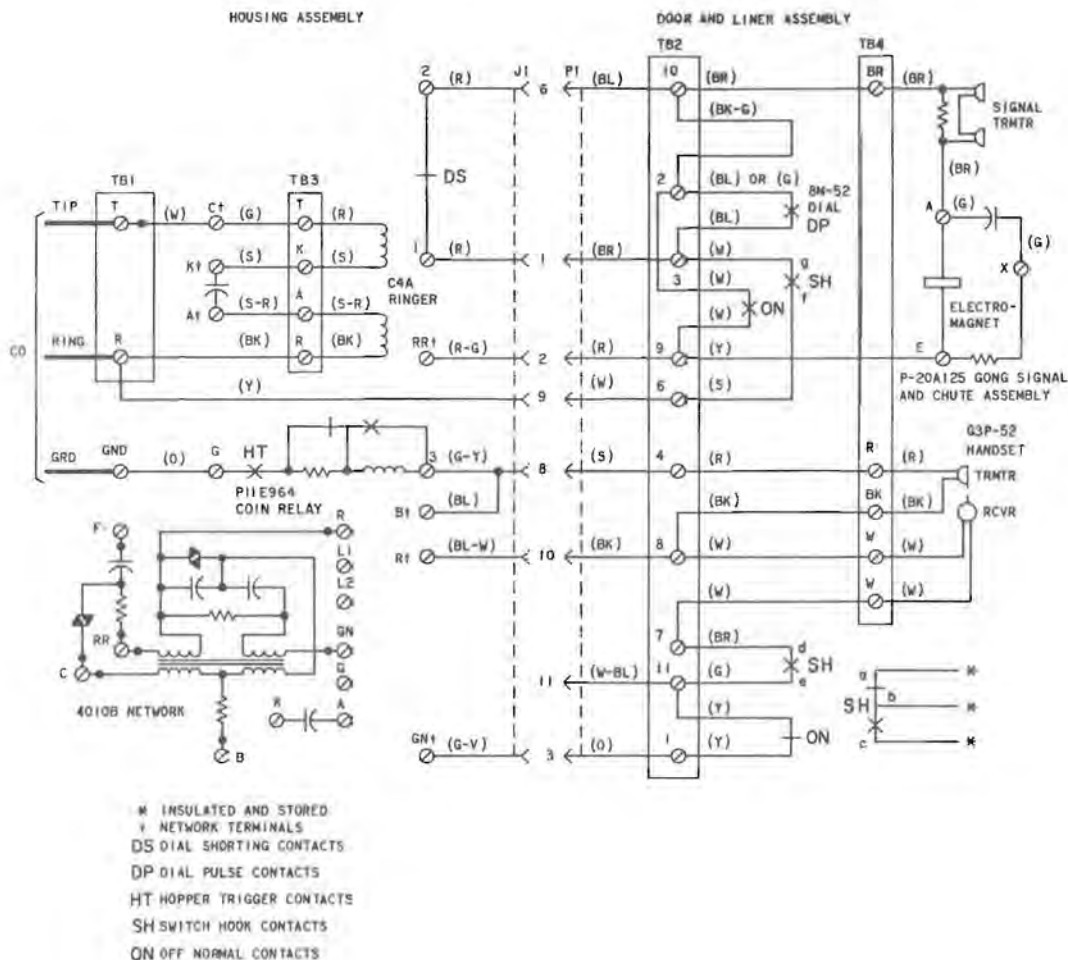

Fig. 10—235G Coin Collector, Connections.
- 3.01** For connection information refer to Fig. 10 and 11.